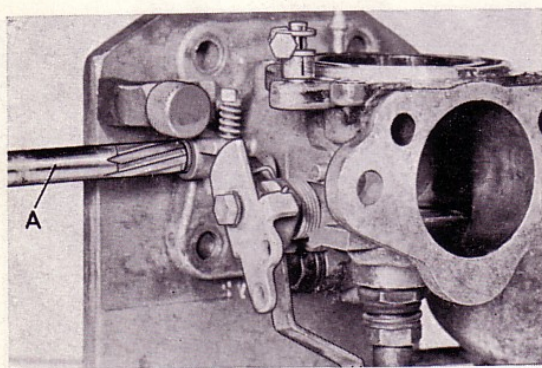

Fig. 108 Reaming the location for bush
2. Secure stand SVO 2603 in a vise and mount the carburettor on the stand with the hooks as shown in Fig. 108. For work with SU-carburettors, use the thick pin of the stand. Make sure that the pin hole comes in line with the throttle spindle hole.
3. Ream off the bushes and the holes for the throttle spindle in the housing with reamer SVO 2880 (SVO 2400 as alternative). See Fig. 108. Do not pull the reamer back through the hole, but release the attachment and push the reamer in the direction of operation through the hole in the bottom plate. If the reaming is done in a vertical drilling machine, a minimum speed must be used and the reamer carefully secured so that it does not throw. If the reamer throws, the holes will be too large. The bushes will then become loose so that the housing must be scrapped.